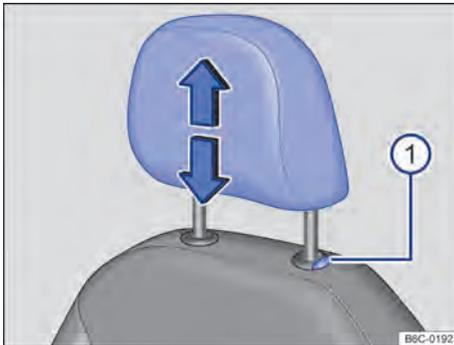
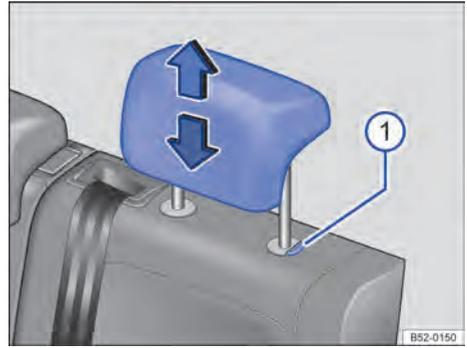

Fig. 63 Front seat head restraint: adjust.
Fig. 64 Rear seat head restraints: adjust.
- Move the head restraint up- or downward as indicated by the arrows, with the → Fig. 63 ⓘ or → Fig. 64 ⓘ button pressed → ⚠ in Introduction on page 73.